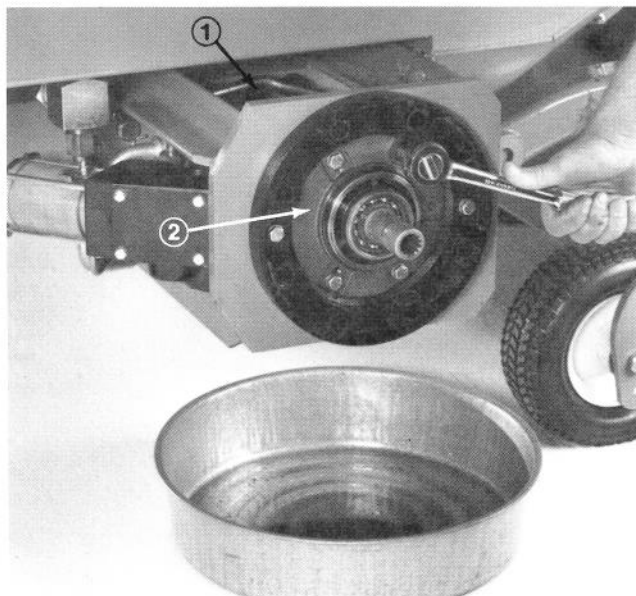

Figure 4
7. Disconnect, remove and discard hydraulic tube running from bulkhead to elbow fitting on wheel motor (Fig. 4).
8. Remove four (4) capscrews and lock washers from brake housing cap (Fig. 4).